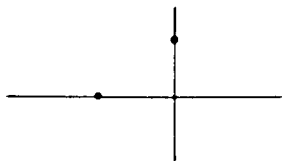

Fig. 4.10. L853 adjustment vector display
- Adjust coil L853 until colour appears on the screen. The oscilloscope should display a cross shaped vector. See Fig. 4.10. Each arm of the cross will have a bright spot which corresponds to the detected black level.